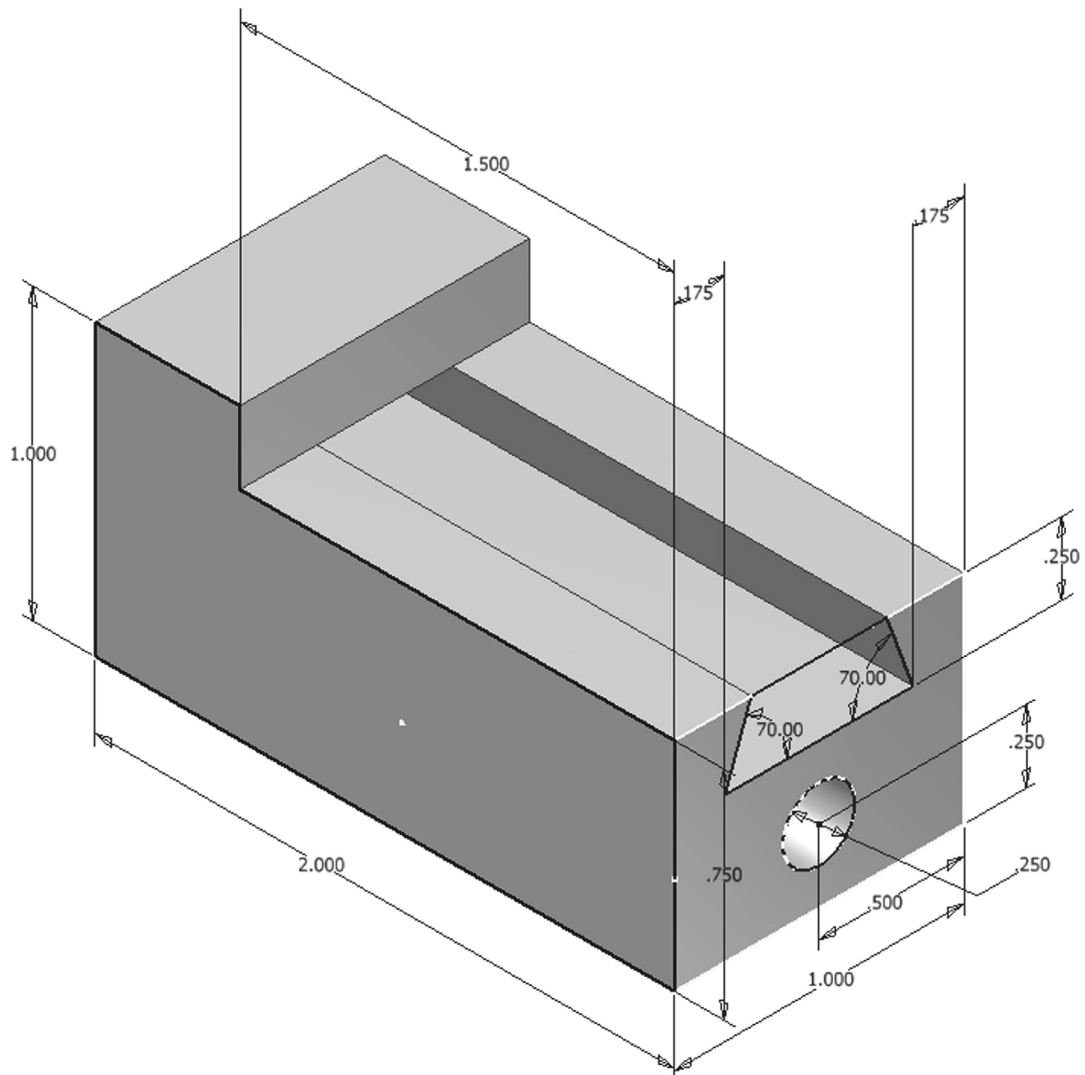

Figure 1
3. Complete the drawing on the **XY Plane** shown in Figure 1.